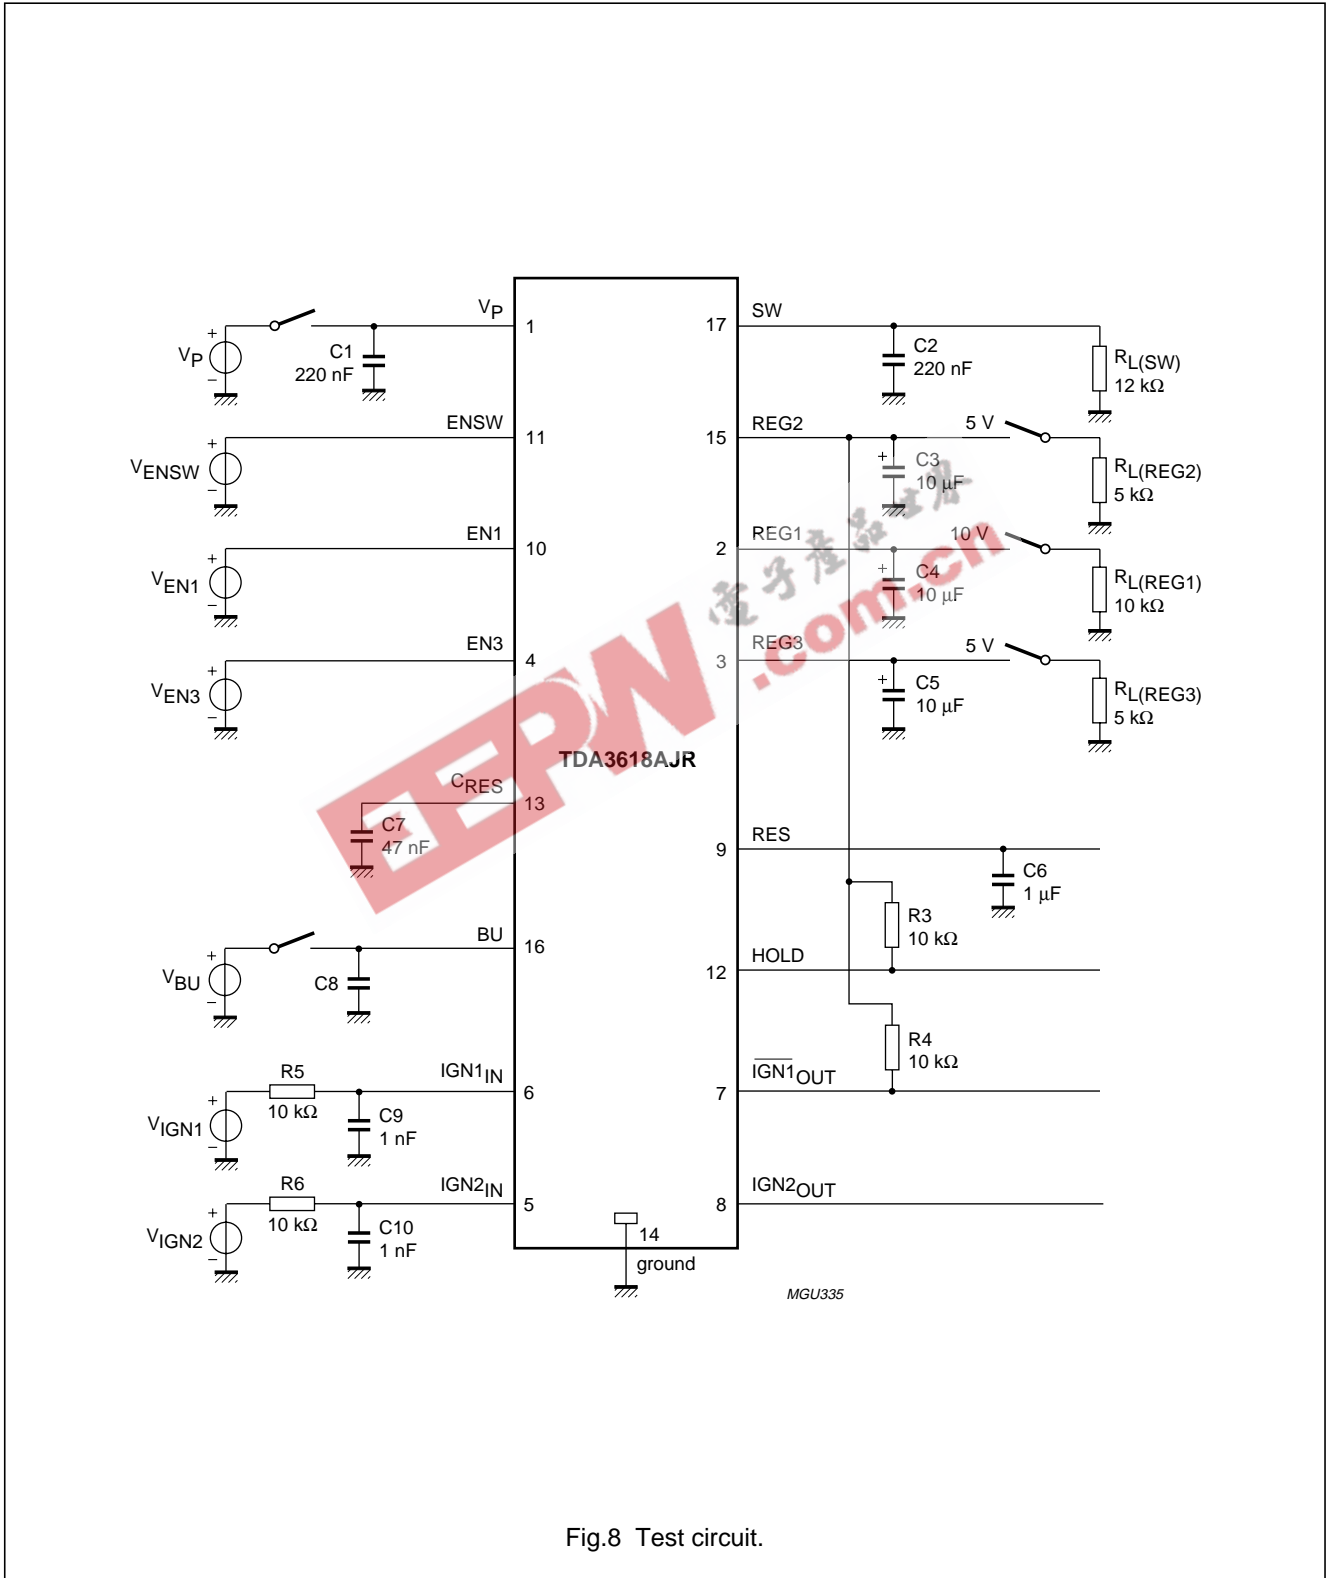

Fig.8 Test circuit.
- The quiescent current is measured in the standby mode with pins EN1, EN2 and ENSW connected to ground and $R_{L(\text{REG}2)} = \infty$ (see Fig.8).